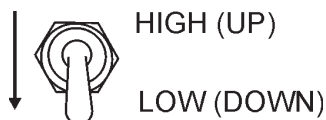

Figure 56. Engine Speed Switch (Low)
2. Place the engine speed switch in the "LOW" position (Figure 56).